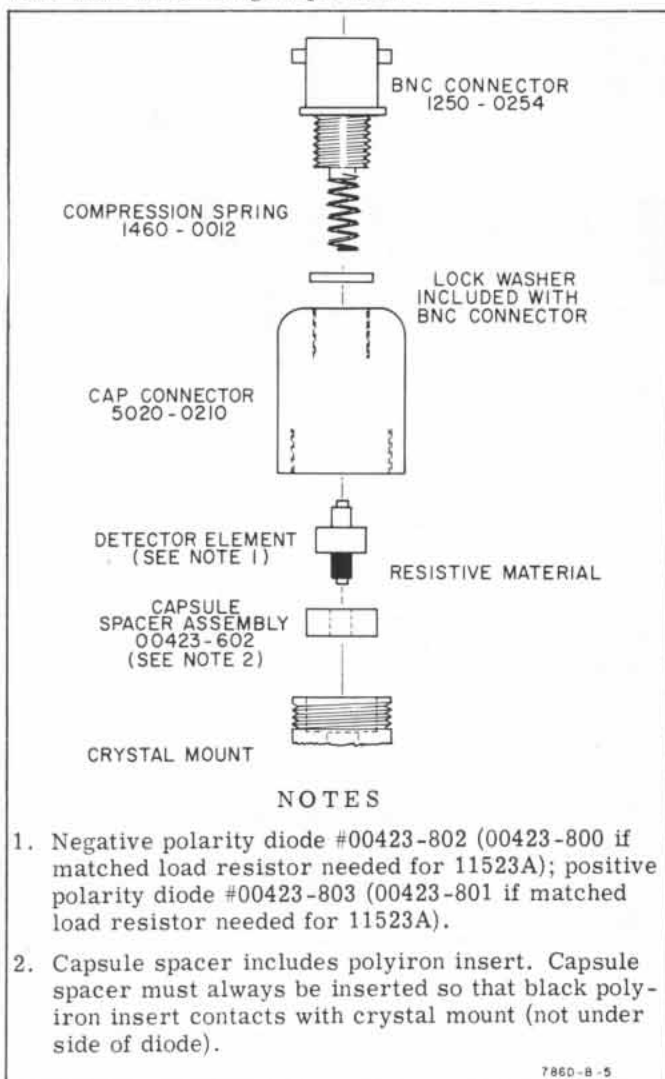
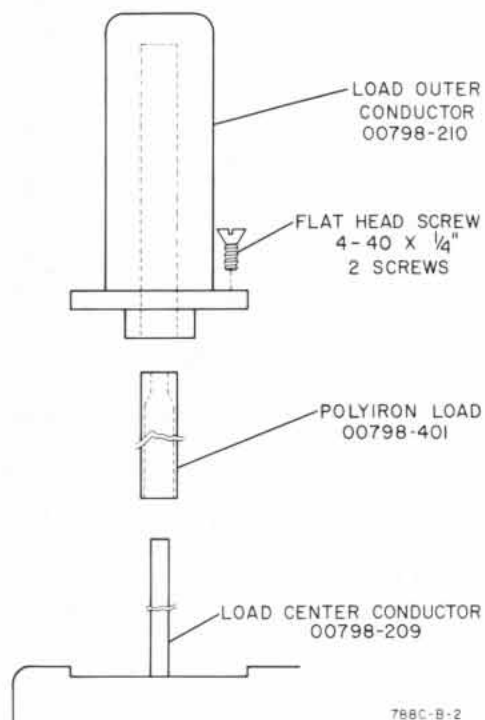
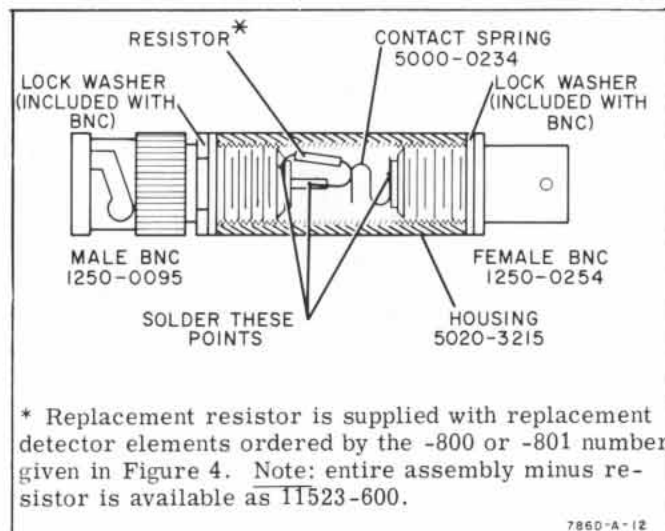

Figure 4. Detector Unit Assembly
Figure 5. 788C Load Assembly
Figure 6. 11523A Cutaway View
21. Succeeding paragraphs give instructions for repair of the directional detector and the 11523A (Option 02) Load Resistor. Figure 4 illustrates the replaceable detector assembly for the 786D, 787D, and 788C. Figure 5 illustrates the replaceable load assembly for the 788C, 786D and 787D load assemblies are not field-replaceable. Figure 6 and 7 illustrate the replaceable 11523A load resistor assembly. Stock numbers required when ordering replacement parts are given in the respective assembly illustrations. To order a replacement part, address order of inquiry to your local Hewlett-Packard sales and service office (see listings at the rear of this Note).
The detector element (see Figure 4) can be damaged electrically by incorrect handling. Read the following handling precautions before doing anything which involves detector element.
a. Note Figure 4 and remove connector cap from body. To remove connector cap, use gas pliers with nylon teeth or protect connector body with heavy paper or tape.
A resistor is included with each replacement detector element ordered by the -800 or -801 number given in Figure 4. The resistor is for use in 11523A Load Resistor and must be installed to retain proper square-law operation if the directional detector is equipped with this optional load.
a. Refer to Figure 4. Remove BNC connector and lockwasher.
a. Refer to Figure 5. Remove two retaining screws and the load outer conductor.
a. Refer to Figure 6. Unscrew male BNC and lockwasher from housing by using a 3/8-inch open-end wrench and holding housing either in a vise or with gas pliers.